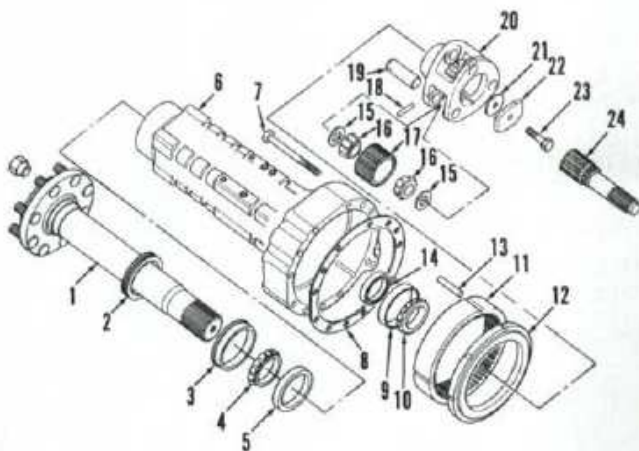
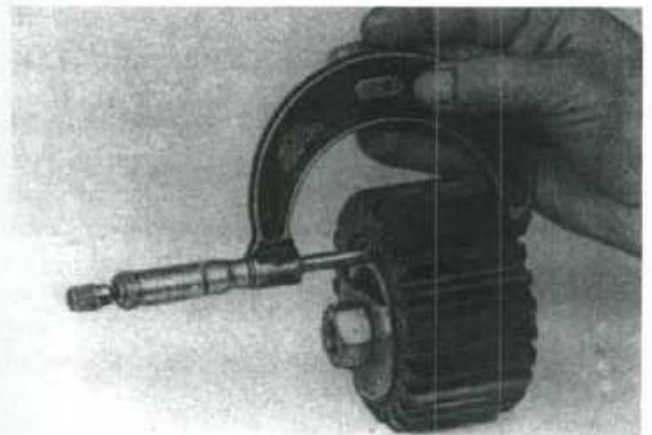

Fig. 137—Exploded view of final drive assembly.
Fig. 139—Measure distance across bearing inner races as shown.
cap screws (7—Fig. 137) and install two guide studs. Attach a hoist and sling to axle housing, then unbolt and remove final drive assembly.
**119. OVERHAUL PLANETARY CARRIER.** With final drive assembly removed as outlined in paragraph 118, proceed as follows: Remove outer brake disc (12—Fig. 137) and cap screw (23) securing planetary unit to axle shaft (1).
**NOTE:** When removing planetary unit, check for shims (21) between retainer (22) and axle shaft (1). Keep the shims together.
inch cap screw and nuts, proceed as follows: Secure cap screw in a vise with threaded end pointing upward. Lubricate bearings (16) with Hy-Tran Plus oil and position over the cap screw with bearing and washer on each side of gear with washer flats in alignment. Tighten nut to a torque of 10 in.-lbs. (1.23 N·m) while rotating gear. Using a micrometer, measure distance across bearing inner races as shown in Fig. 139. With this measurement, refer to chart in Fig. 140 for the required shims (15—Fig. 137) to be installed for correct bearing preload. Keep each shim pack and gear together after correct shims have been selected.
**120. OVERHAUL REAR AXLE AND RING GEAR.** If it is necessary to remove the ring gear (11—Fig. 137), remove planet carrier assembly as outlined in paragraph 119. Using a suitable puller, remove ring